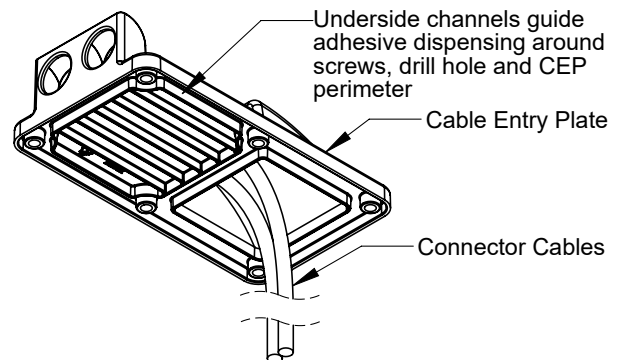

FIGURE 4-A
4. Mark the location of the CEP cable hole to be drilled for feeding the cables through the snap bushing and the RV roof – details on install below. (See Figure 4-B).